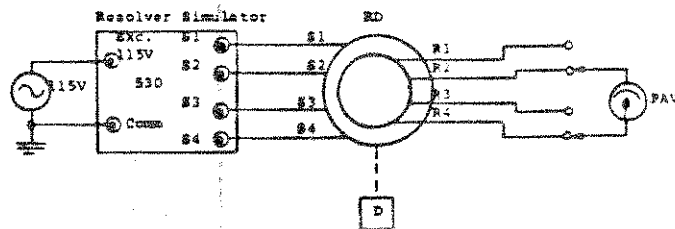

Figure 7-24. Null Test (RD/RC)
- a. Set up equipment as shown in figure 7-24.